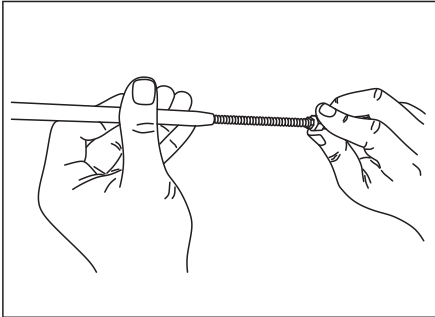

Fig. 11
7. Connect the long screw to the central cylinder with a few turns. The turnbuckle should be fully extended with the long screws open equally (Fig.11).